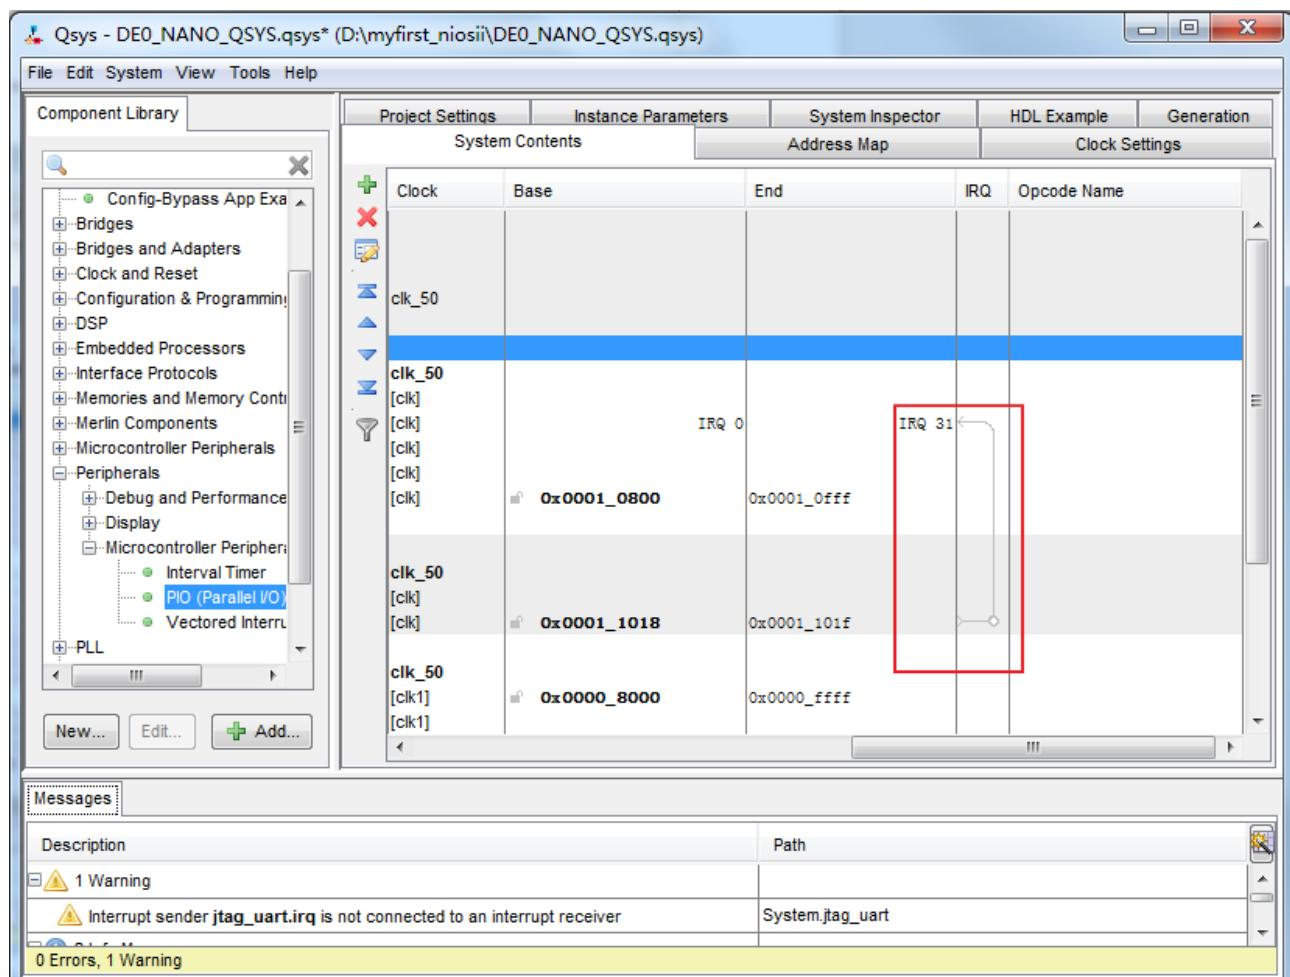
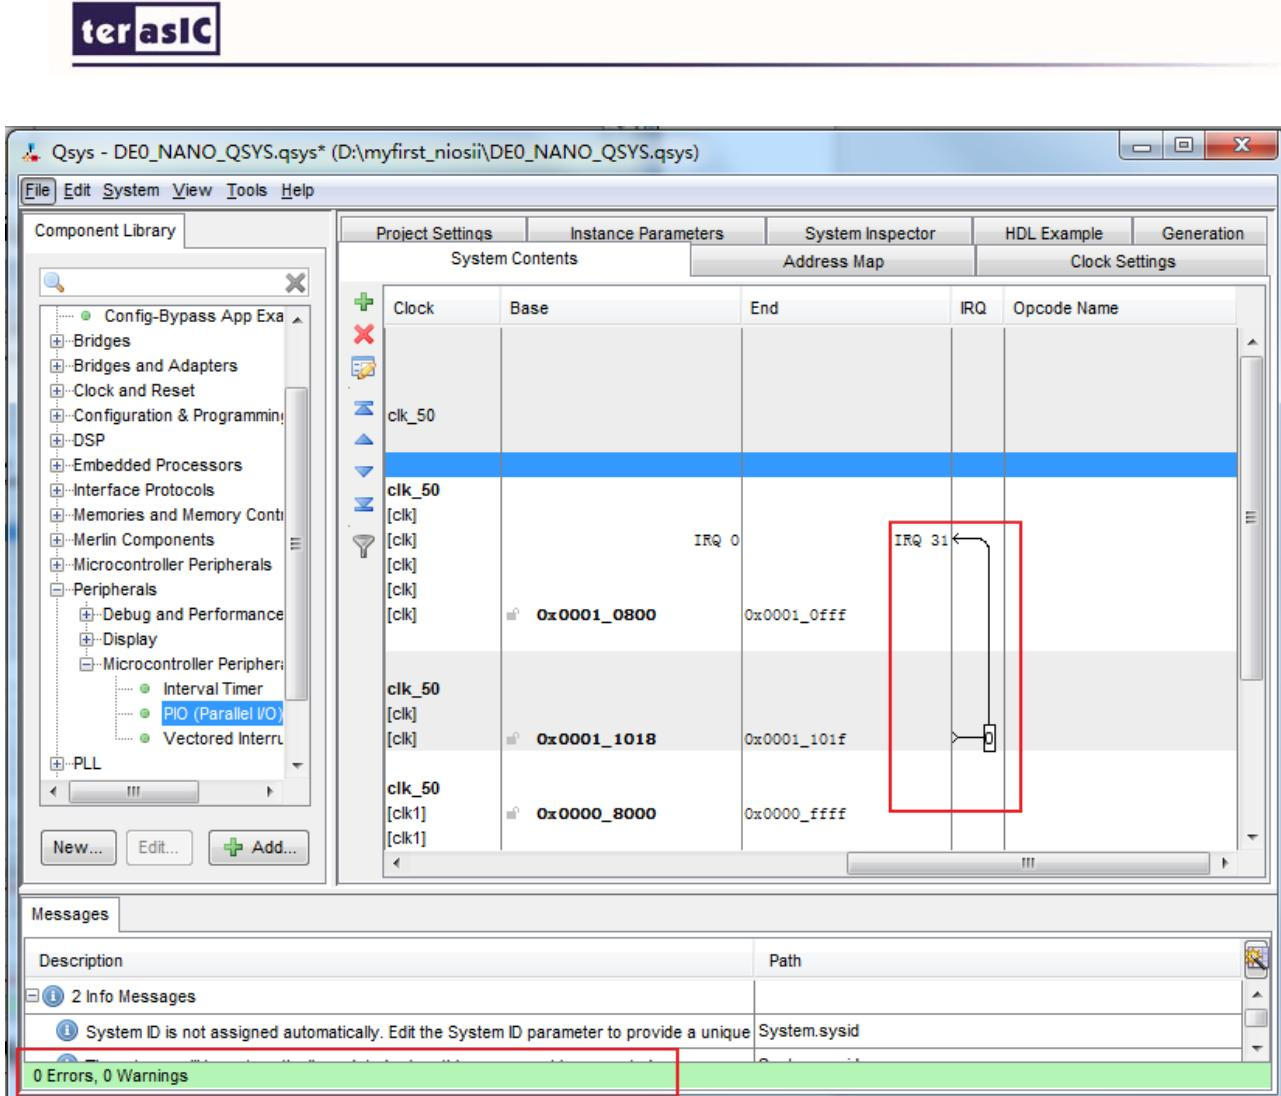

Figure 1-45 Assign IRQ
Figure 1-46 No Warings
29. Assign Interrupt Numbers as shown in Figure 1-45. After that, you will find that there is no warings in the message window as shown in Figure 1-46.(In the IRQ column, connect the Nios II processor to the JTAG UART)